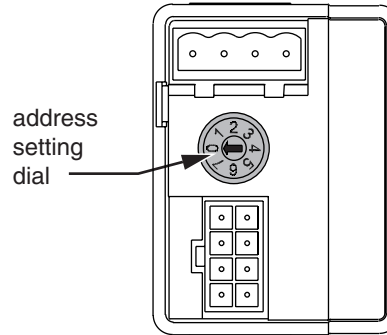

Figure 2: Rotary dial on slave address selector accessory
1. Locate the address setting dial on the slave address selector (see Figure 2).